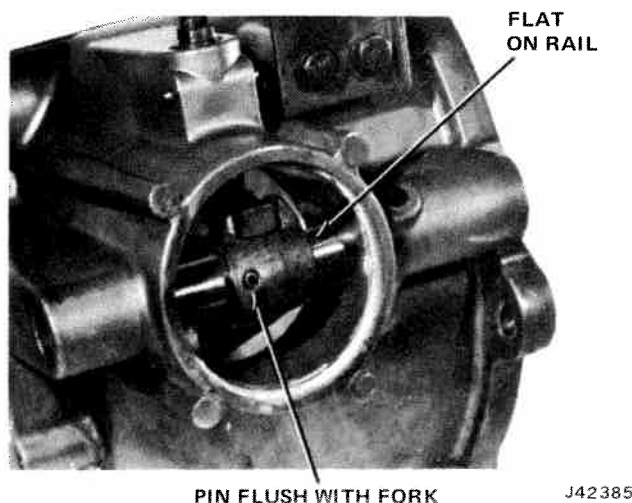

Fig. 8-34 Shift Rail
(13) Slide shift rail over poppet ball as far as spring pin will allow.
(14) Remove spring pin and slide shift rail to first detent position.
(15) Rotate shift rail until flat side is facing shift lever assembly and spring pin bore is aligned with spring pin bore in shift fork.
(16) Slide shift fork on shift rail to align spring pin holes.
(17) Install spring pin flush with outside surface of shift fork (fig. 8-34).
(18) Install shift rail taper plugs, poppet bore taper plug and shift rail cover expansion plug.